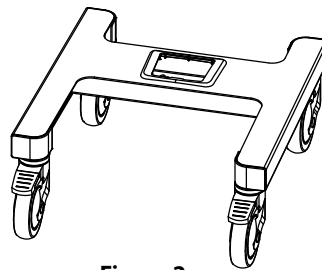

Figure 2
2. Place base with casters on the ground (**Figure 2**). Lock the casters by engaging the red brakes on the front casters.